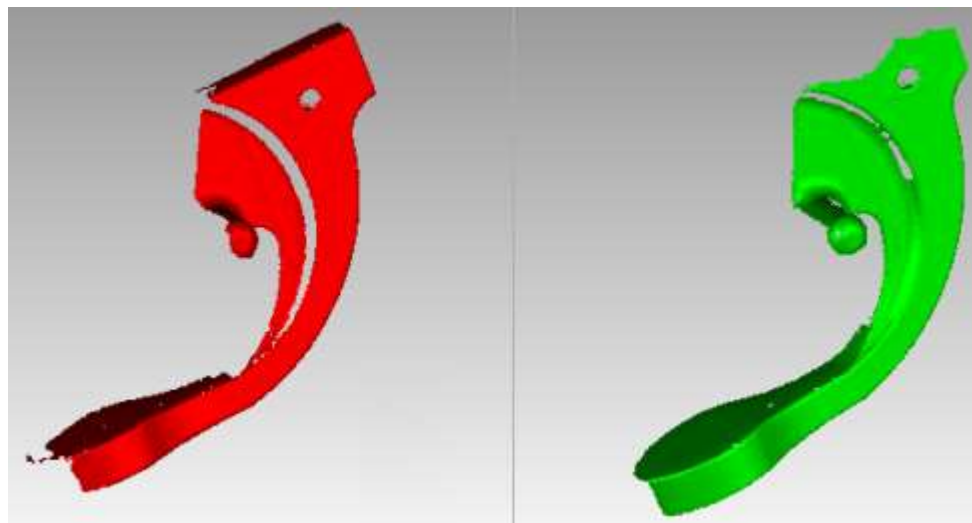

Figure 39
- **Rotate** each of the scans to positions similar to **Figure 39** to see most of the overlapping data.